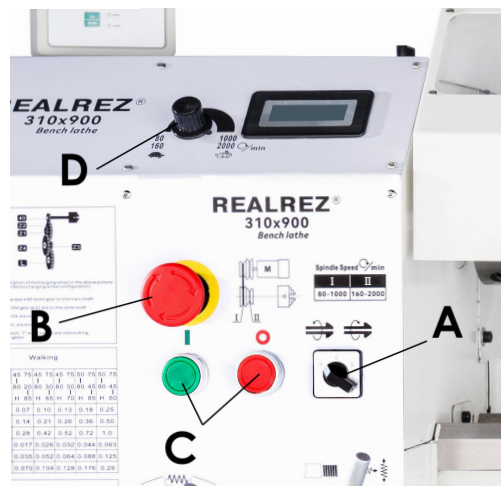

Fig. 11
1. Change-over Switch (A, Fig. 11)
2. Emergency Stop Switch (B, Fig.11) function of emergency stopping and the protective function to the machine and electric components. **(C, Fig.11)** Green push button marked "I" to start the motor, Red push button marked "O" to switch the motor off.
3. Variable Speed Control Switch (D, Fig.11)